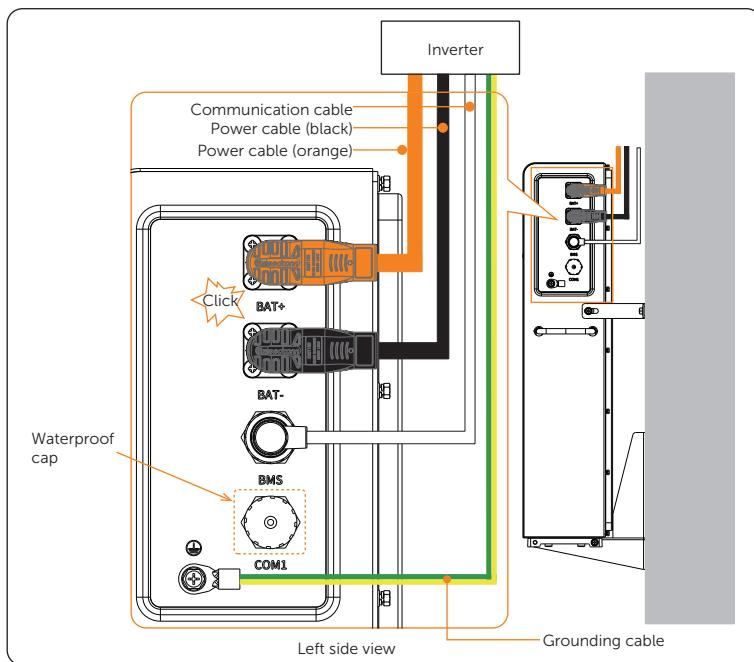

Figure 7-23 Cable connection of the left electrical connection area
- Ensure that power cables and communication cable are wired correctly, as shown in Figure 7-23. Failing to do so may cause severe damage to the battery pack.